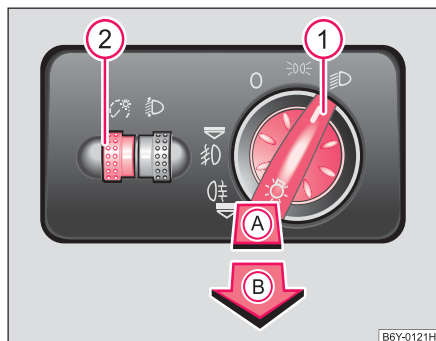

Fig. 30 Dash panel:
- Turn the light switch ① ➡ fig. 30 into position ➡.
- Turn the control dial ② ➡ fig. 30, until you have set the intensity you require for the instrument lighting.
On models fitted with **right-hand steering*** the position of the switches differs from that shown in ➡ fig. 30. The symbols which mark the switch positions are identical, however.
- First turn the light switch ① into position 𐀁 or 𐀂 ⇒ page 52, fig. 30.